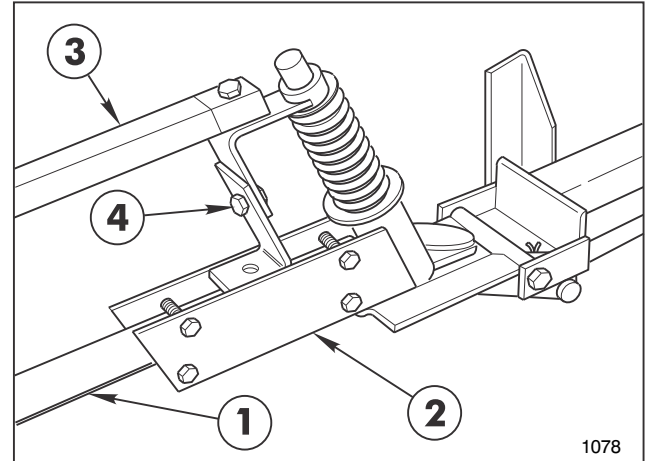

FIG. 5
12. Insert the plugged end of an Extension Boom Pipe into the Pivot Assembly and secure with four (4) 1/4" x 1-1/4" cap screws and lock nuts (See FIG. 5). Repeat on the opposite side to assemble the other Extension Boom.
13. Attach the LH Boom Support Assembly to the Pivot Assembly, using a 5/16" x 1-1/2" cap screw and lock nut. (See FIG. 5 & 6, page 13)